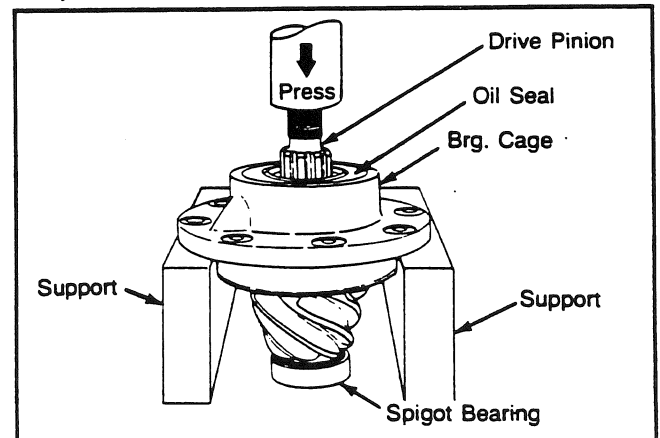

Fig. 21
5. Place the drive pinion and bearing cage assembly in a press. The pinion shaft must be at the top. Support the bearing cage under the flange area with metal or wood blocks. Press the drive pinion through the bearing cage (see Fig. 21). The inner bearing cone and bearing spacer will remain on the drive pinion shaft.